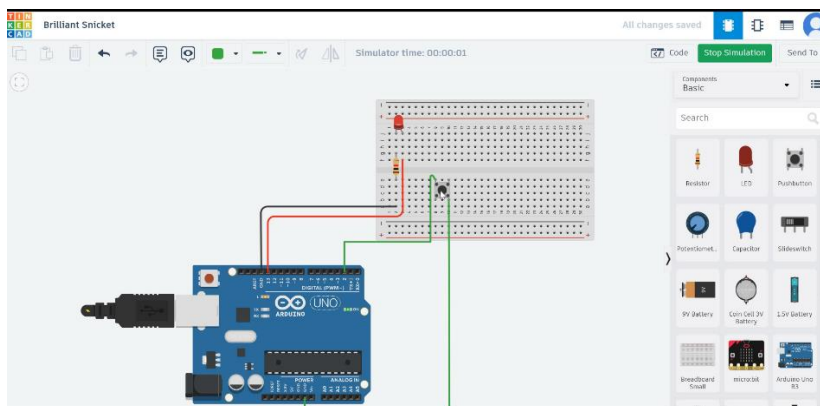

Figure 2 Button Pressed
**Figure 2** illustrates the active state, where pressing the button causes the Arduino to detect a LOW signal and turn the LED ON.